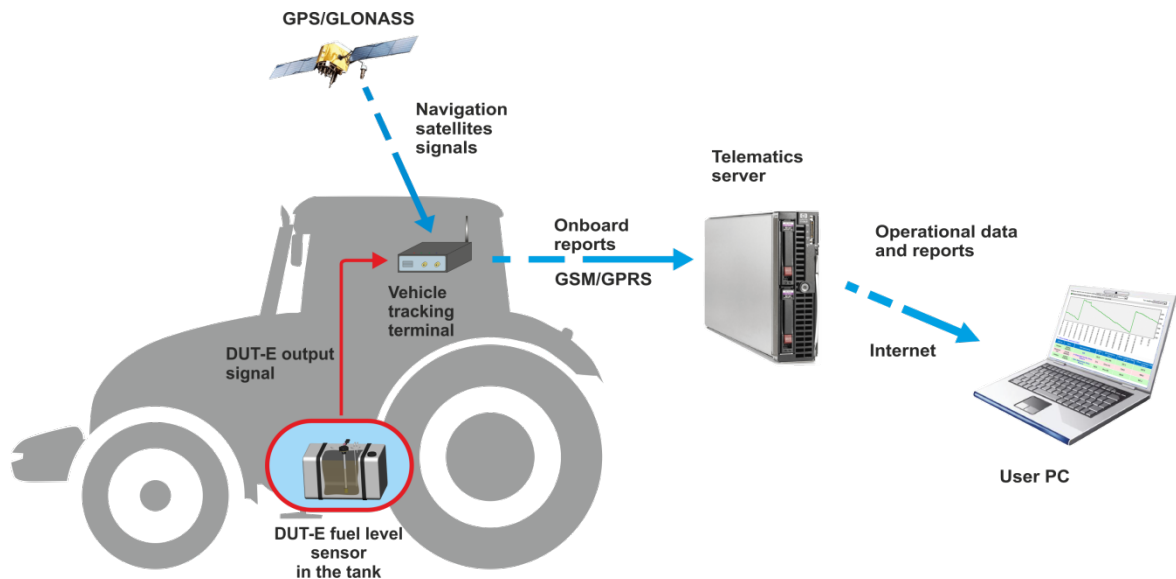

Figure 3 — DUT-E application in vehicle monitoring and fuel consumption control system
**Application area** — used in vehicle monitoring and fuel consumption control systems as additional fuel sensor or as a replacement of standard (factory built-in) fuel level sensors (see Figure 3).